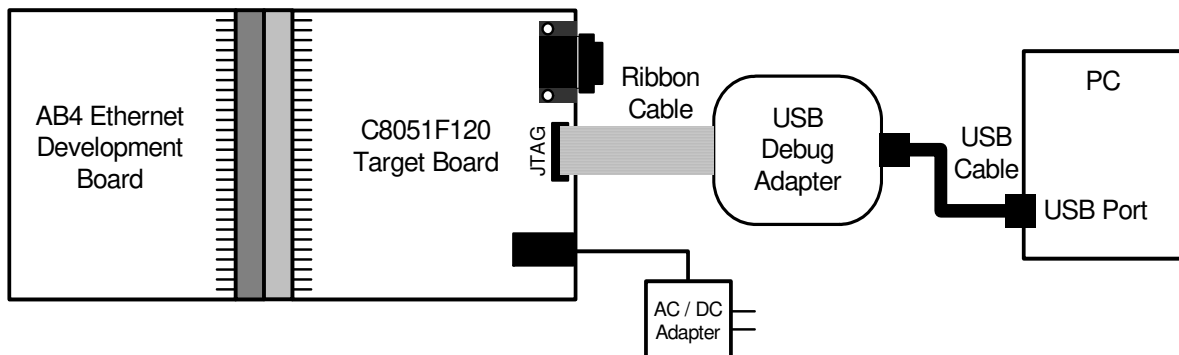

Figure 3. Embedded Ethernet Development Kit Debug Connections
2. Using the ribbon cable, connect the **USB Debug Adapter** to the **C8051F120 Target Board** at the JTAG header as shown in Figure 3.
3. Connect one end of the provided USB cable to any available USB port on the **PC** (Figure 3).
4. Connect the other end of the USB cable into the USB connector on the **USB Debug Adapter** (Figure 3).
5. Connect the **ac/dc Power Adapter** to the **C8051F120 Target Board** at P1 (Figure 3). This connection should power both boards. Power is indicated by the "PWR" LED on the C8051F120 TB.